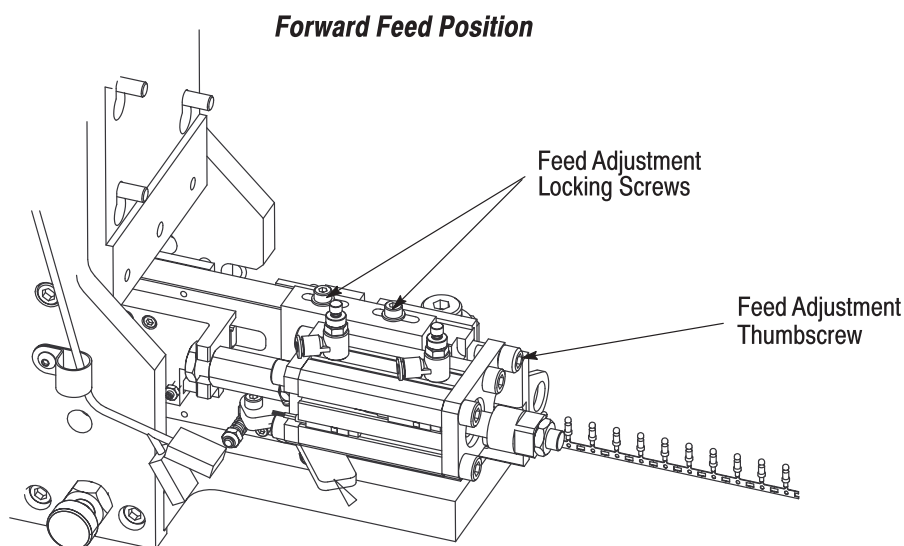

Figure 13
## 5.2. Checking and Adjusting the Forward Feed Position (See Figure 13)
8. To adjust the feed position, loosen the two feed adjustment locking screws and turn the feed adjustment thumbscrew clockwise to move the terminal strip *forward* (if the terminals were underfed), or counterclockwise to move the terminals *to the rear* (if the terminals were overfed). Refer to Figure 13.